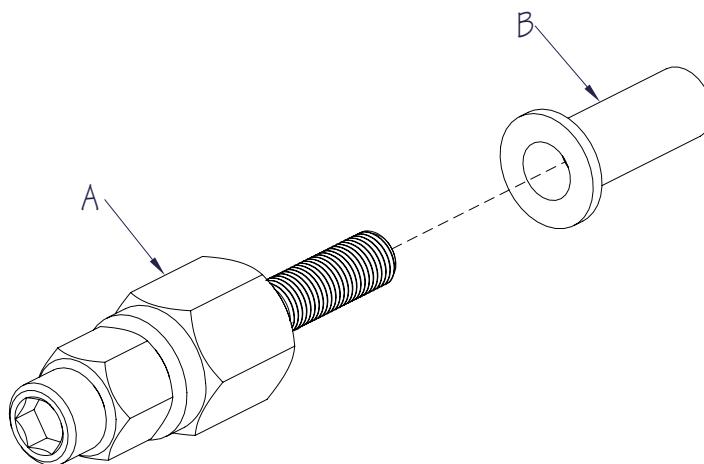

Fig. 5
3. A Rivet Nut Tool (A) is provided for installing the Rivet Nuts (B) into the pool wall, which serve as threaded inserts for the mounting system. Thread the nut fully onto the tool (Fig. 5).